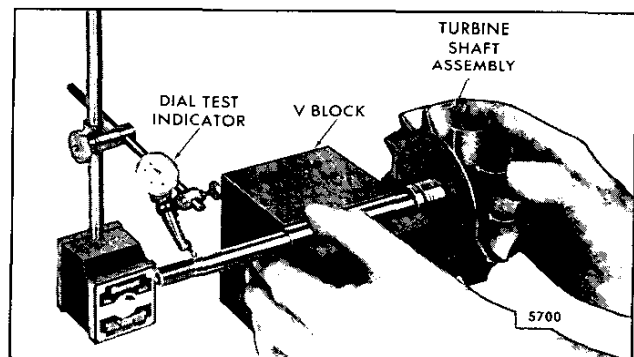

Fig. 12 – Measuring Concentricity Between Large and Small Turbine Shaft Diameters
- d. Measure the concentricity between the large and small turbine shaft diameters with a dial test indicator and vee-block (Fig. 12). Limit of eccentricity is .0006" total indicator reading. Replace if the measurement is excessive. *Do not attempt to straighten a bent shaft.*